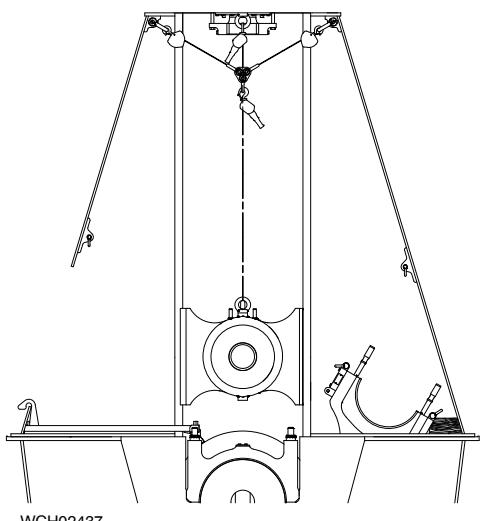

Fig. 3
- 17) Continue with step 16) until the connecting rod (3) touches the wooden block (2).
- 18) Loosen the two set screws (1).
- 22) Lower the crosshead to the same height as the column door frame (see Fig. 3).